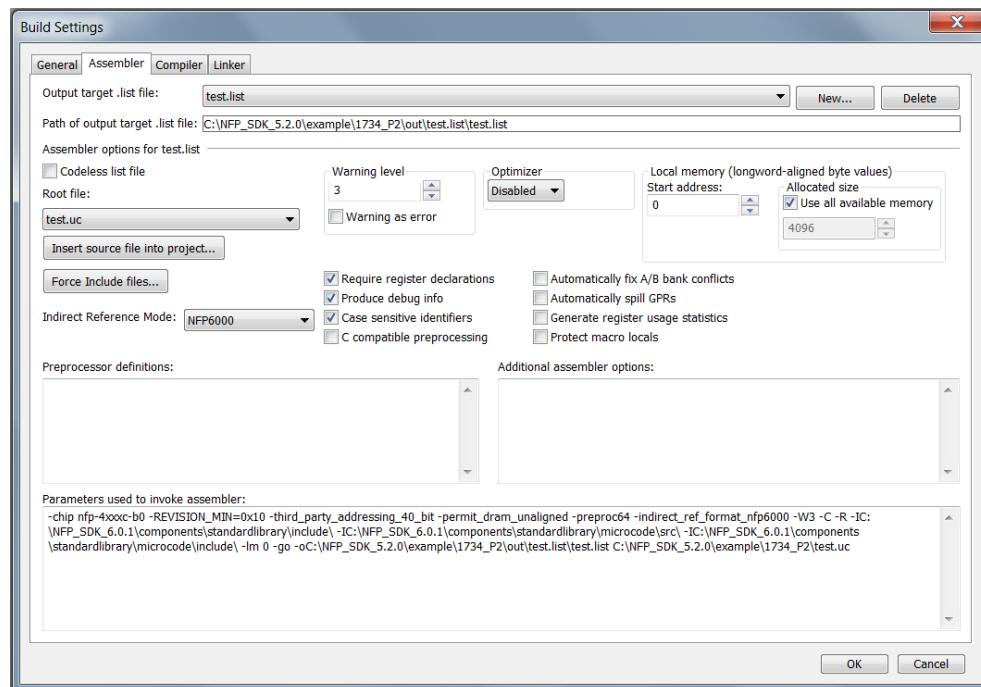

Figure 2.7. Build - Assembler Tab
2. Click the **Assembler** tab (see Figure 2.7).